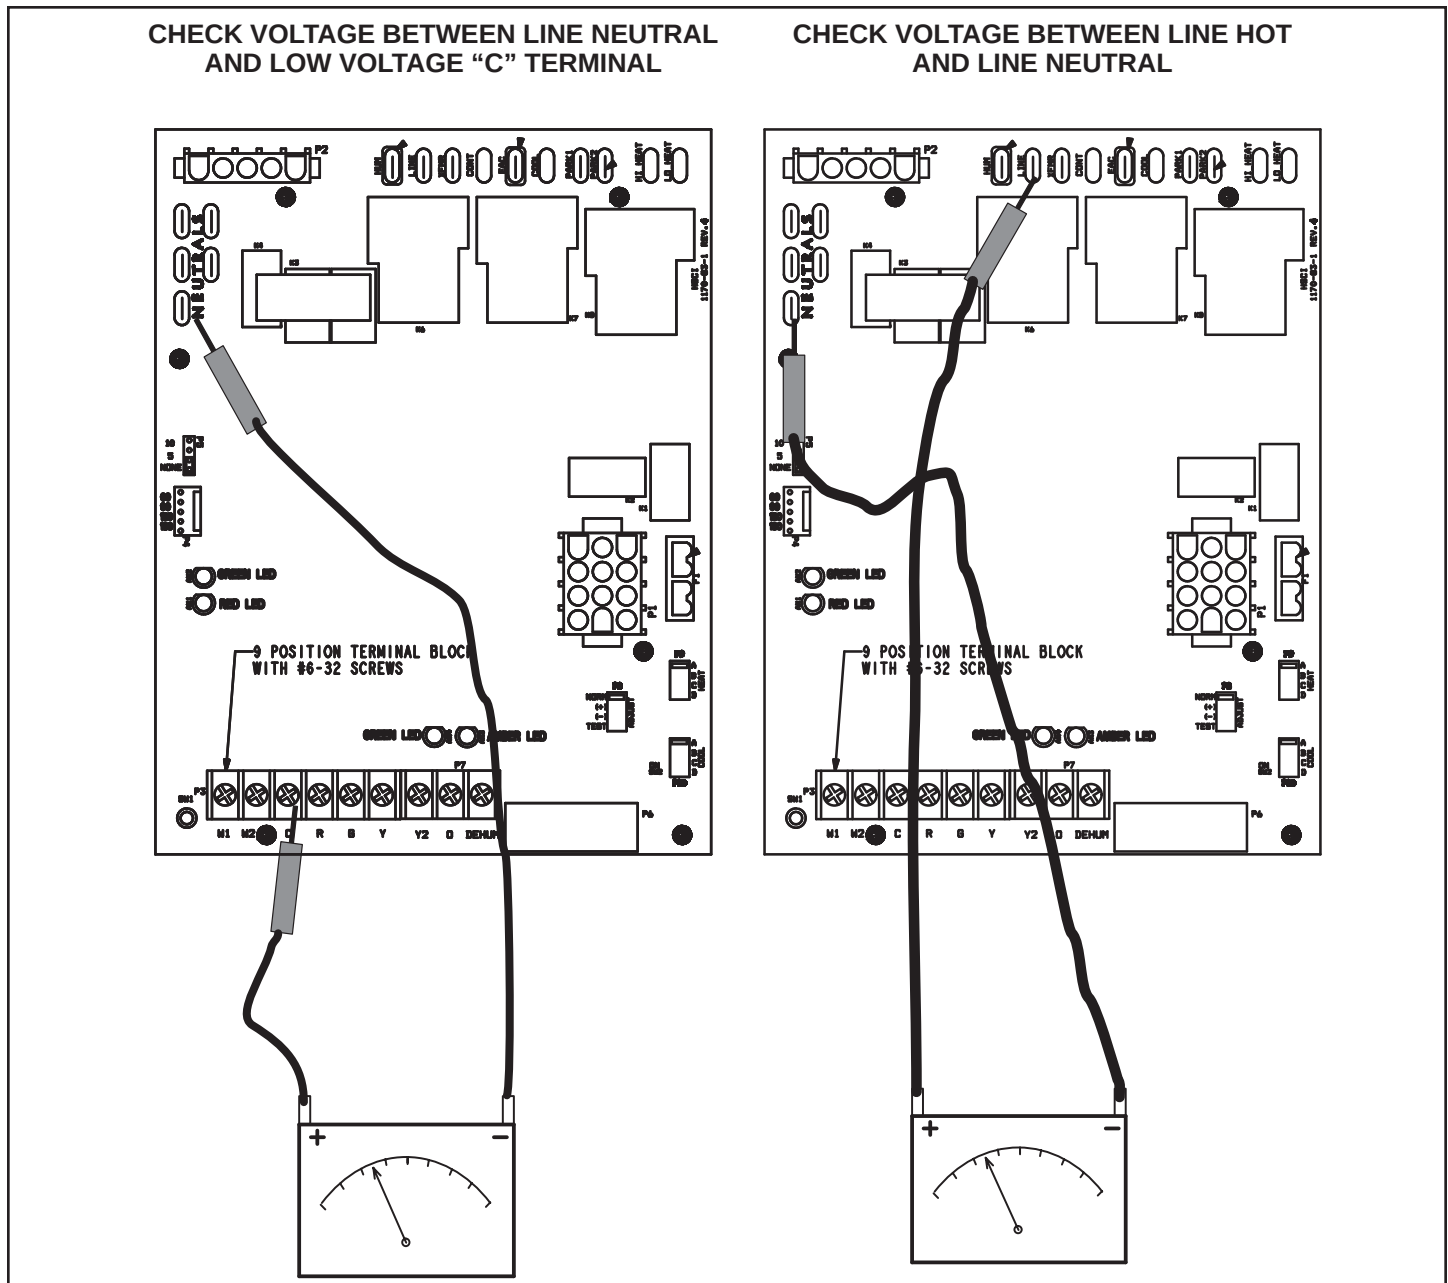

Figure 49. (IFC 103069-03 shown)
1. Measure the AC voltage between Line Neutral (spade terminals) and "C" terminal (low voltage terminal block) on the integrated control. See Figure 49. A wide variation in the voltage between Line Neutral and "C" as a function of load indicates a poor or partial ground. Compare the readings to Table 17. If the readings exceed the maximum shown in Table 17, make repairs before operating the furnace.
2. In addition, measure the AC voltage from Line Hot to Line Neutral (spade terminals) on the integrated control. See Figure 49. This voltage should be in the range of 97 to 132 VAC